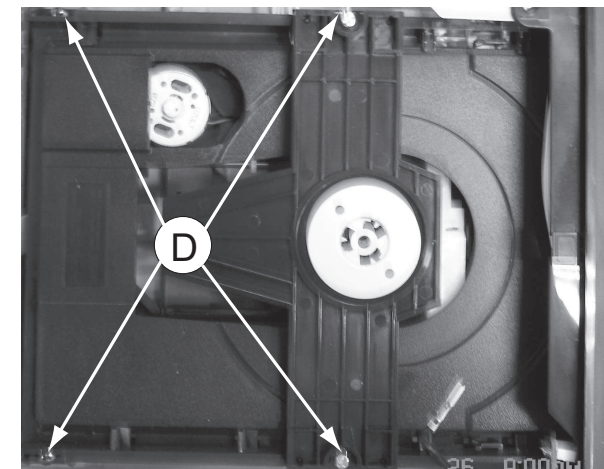

Figure 7
- 1) Loosen 4 screws "D" at the DVD Module as shown in figure 7.